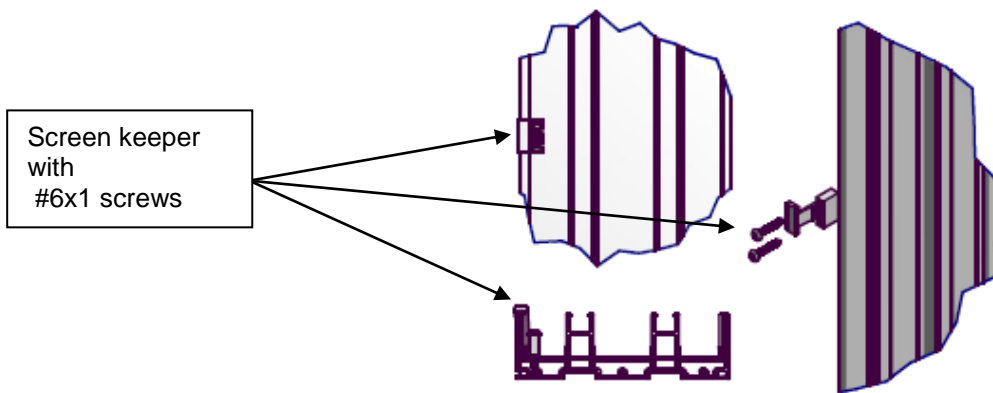

Figure 28
- 4) Attach screen keeper to jamb using #6x1" screw shown in figure 28 below.